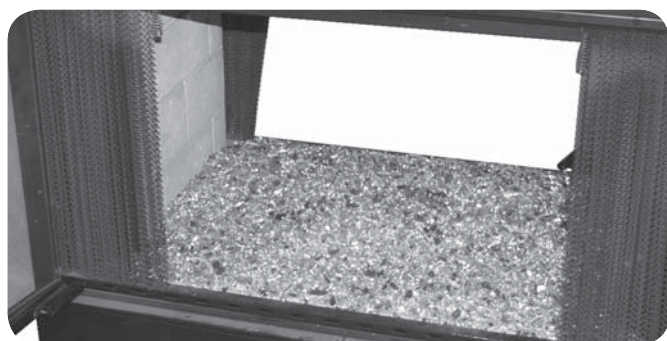

Fig. 8-4
2. Add additional glass/gems around the burner pan as desired (Fig. 8-4).